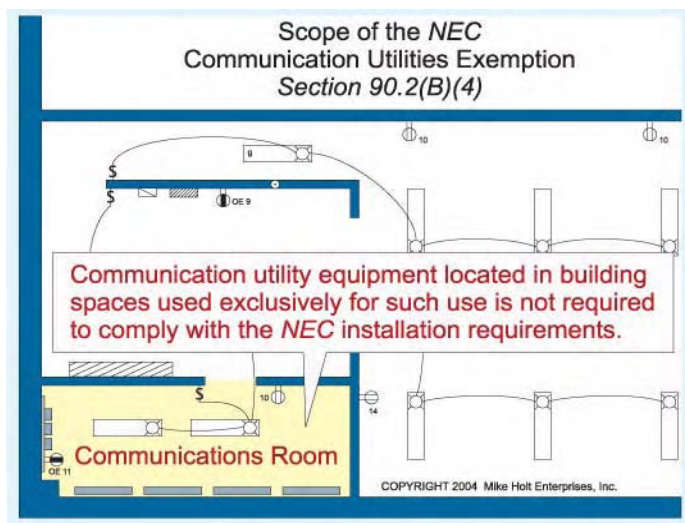

Figure 90-5
- (1) **Transportation Vehicles.** Installations in cars, trucks, boats, ships and watercraft, planes, electric trains, or underground mines.
- (2) **Mining Equipment.** Installations underground in mines and self-propelled mobile surface mining machinery and its attendant electrical trailing cables.
- (3) **Railways.** Railway power, signaling, and communications wiring.
- (4) **Communications Utilities.** The installation requirements of the *NEC* do not apply to communications (telephone), CATV, or network-powered broadband utility equipment located in building spaces used exclusively for such use or outdoors, if the installation is under the exclusive control of the communications utility. Figure 90-5